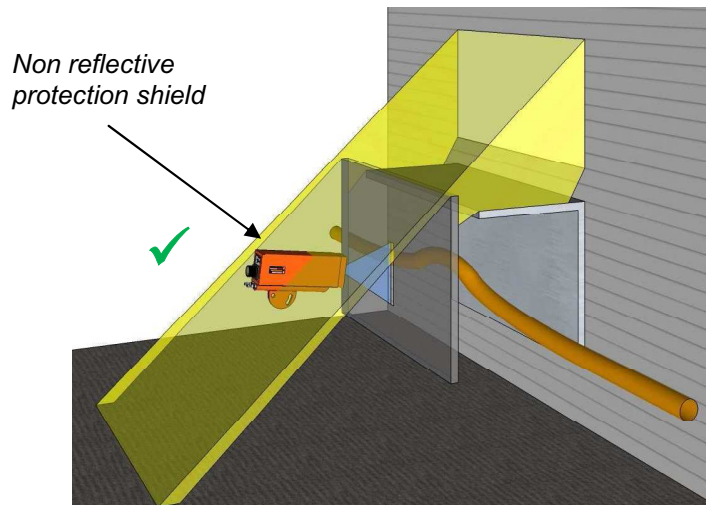

Fig. 9: Correct installation of the photocell
In case of any interference of this type, it is recommended to provide the installation with appropriate screening, (see the example in figure 9).
- Figures 9 and 10 show examples of correct and incorrect positioning.